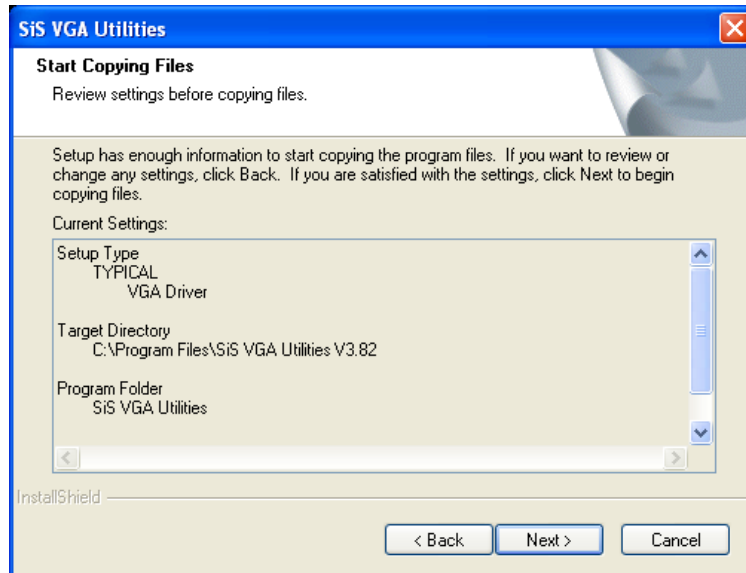

Figure 7-15: VGA Start Copying Files
Step 14: The screen in **Figure 7-15** appears.